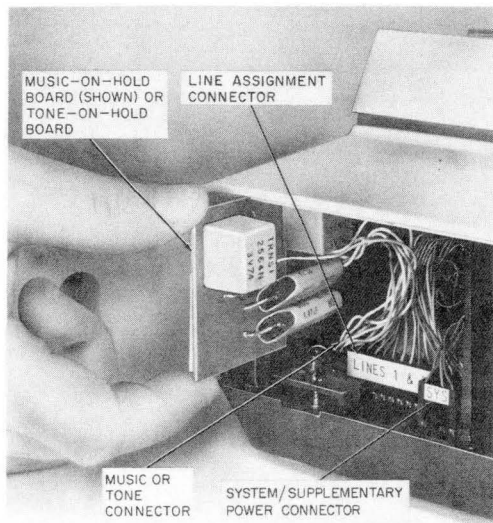

Fig. 21—Primary Set, Rear View With Heat Sink Removed
- (b) Find the line assignment connector plugged into the logic board near the back of the set (Fig. 21). The visible side is labeled "LINES 1 & 2."
- (b) Find the power connector labeled SYS plugged into the logic board near the back of the set (Fig. 21)
- (b) Plug the circuit board connector into the keyed plug on the logic board (Fig. 21 and 23).
- (c) Insert the music-on-hold circuit board vertically in the slots in the housing and base (Fig. 21).